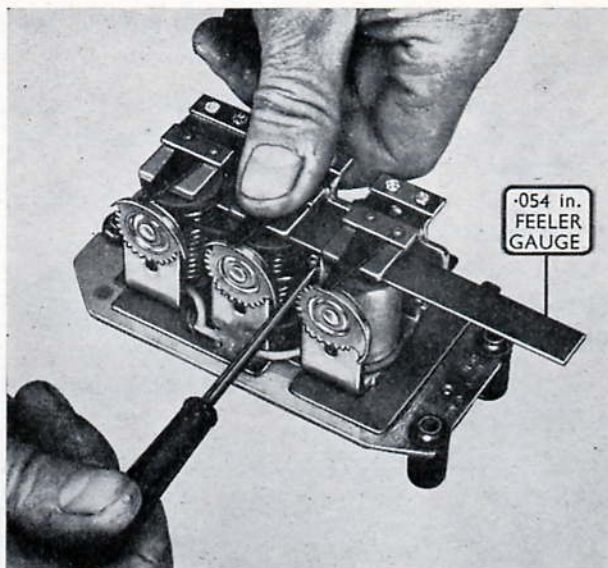

Fig. P.37. Setting the current regulator armature
3. Insert a .054 in. feeler gauge between the current regulator armature and the core face (Fig. P.37). Position the feeler gauge over the core as far as the rivet heads will allow, then press the armature firmly downwards.
4. Whilst holding the armature down, screw the stationary contact inwards (Fig. P.37) until it just touches the moving contact and secure by tightening the locknut.